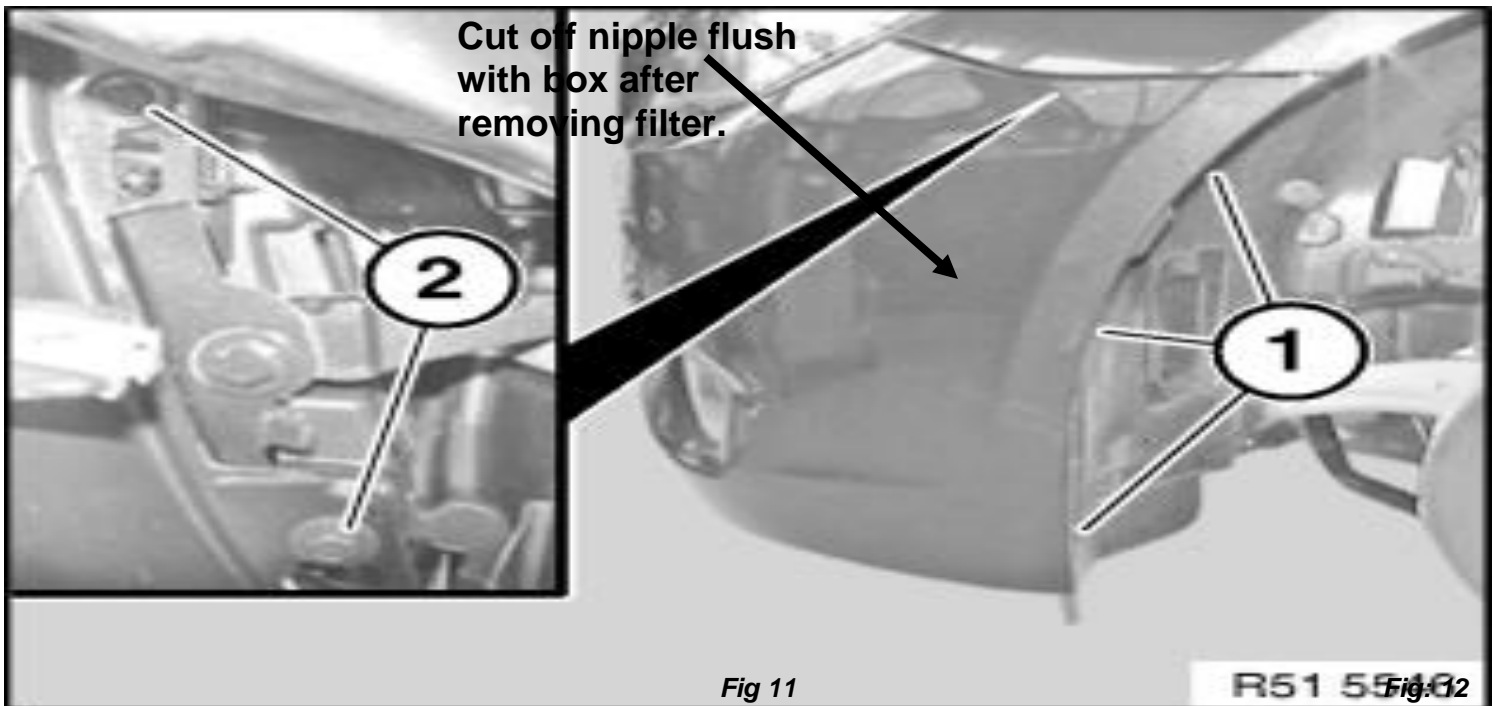

Fig 11
11. Remove the carbon filters from the air box lids. Use a pick tool as shown to pry the tabs around the nipple as you lift on the corner of the filter. Start with the highest tab and work your way around keeping slight pressure by lifting the filter, do one tab at a time. See figures 11 and 12.